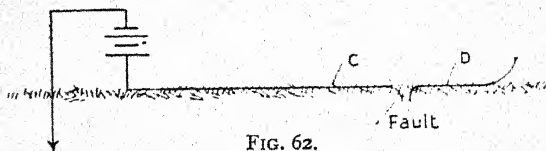

FIG. 62.
**Short Circuit.**—In the case of a short circuit, which would usually be caused by a wheel passing over a wire, pressing it into the earth and removing the insulation, or perhaps cutting the wire in two (as shown in Fig. 62), and pressing both ends into the earth.